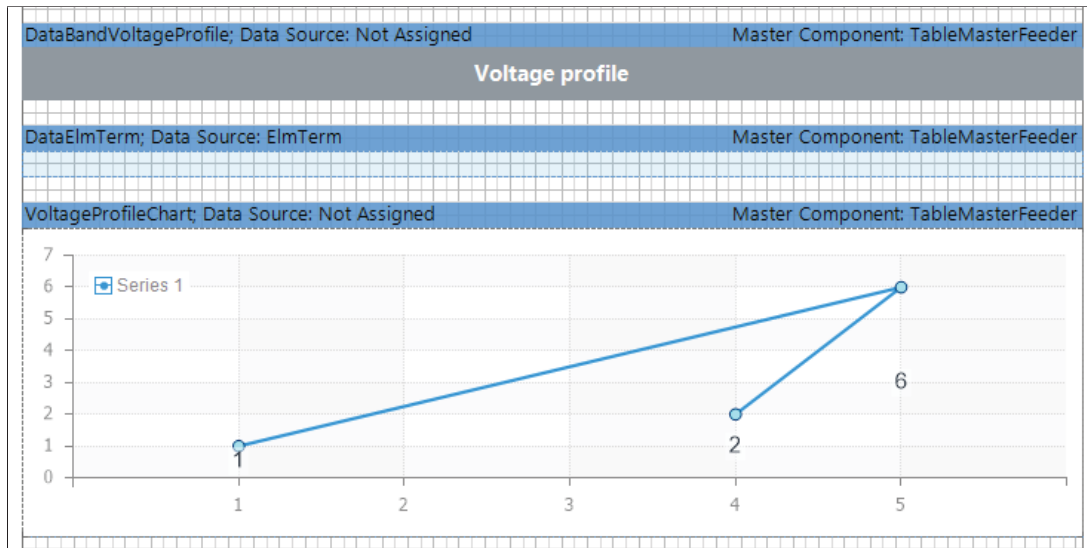

Figure 6.2: Report “Load Flow Analysis” - Part 5
- This part of the report could look like Figure 6.2 in the designer.